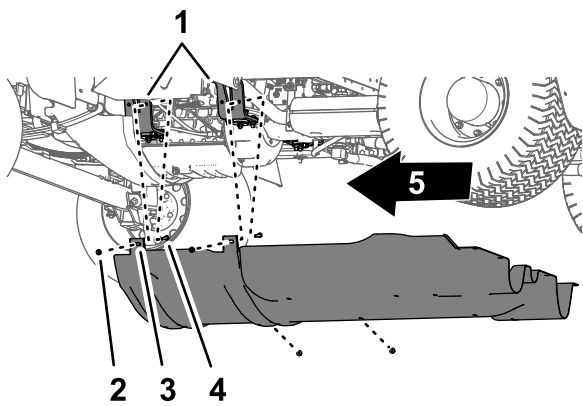

Figure 60
2. Remove the 4 flange locknuts (5/16 inch) from the bolts and carriage bolt that secure the mounting tabs of the undercarriage shroud to the engine-mount brackets of the machine (Figure 60).
4. Remove the undercarriage shroud from the machine (Figure 59 and Figure 60).
1. Align the undercarriage shroud to the bottom chassis of the machine; refer to Figure 60 in Removing the Undercarriage Shroud (page 51).
2. Move the mounting tabs of the undercarriage shroud over the bolts and carriage bolt at the engine-mount brackets of the machine; refer to Figure 60 in Removing the Undercarriage Shroud (page 51).
3. Assemble the undercarriage shroud to the engine-mount brackets and bolts (Figure 60) with the 4 flange locknuts (5/16 inch) that you removed in step 2 of Removing the Undercarriage Shroud (page 51).